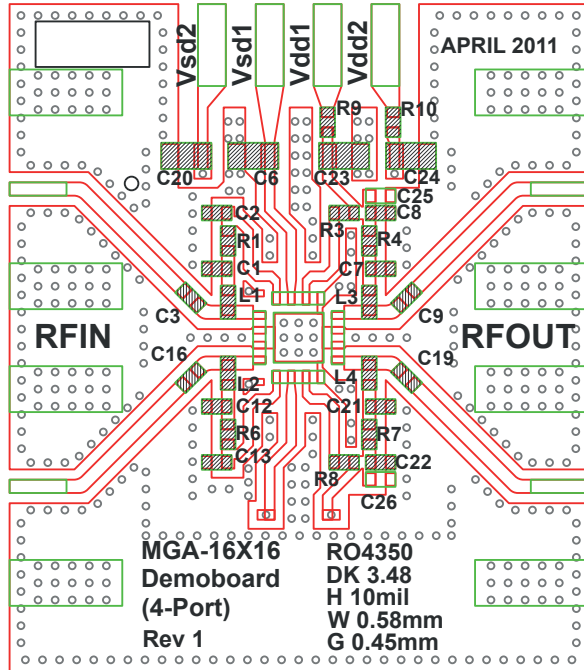
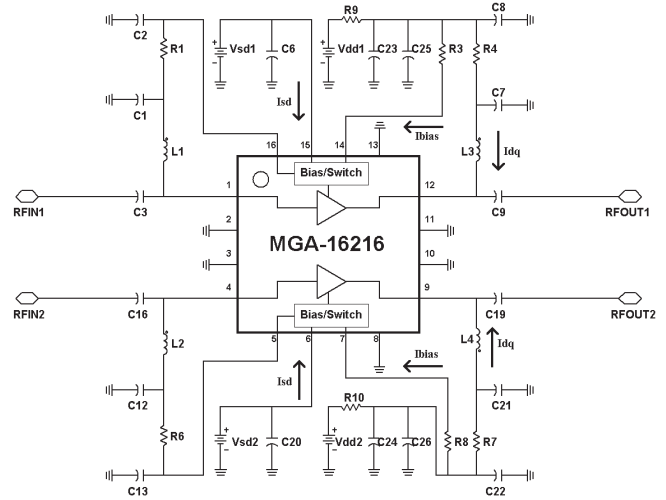

Figure 5. Demo Board Layout Diagram
Figure 6. Demo Board Schematic Diagram
4. Refer to Figure 6 for more details.
7. Bias to each LNA is adjustable using R3 and R8 (see Figure 6). Increasing R3 and R8 will reduce bias current (Idd) and vice-versa.
RF performance at $T_A = 25^\circ\text{C}$, $V_{dd} = 4.8\text{ V}$, $I_{dd} = 52\text{ mA}$, LNA mode, measured on demo board in Figure 5. Signal is CW unless stated otherwise. Application Test Circuit is shown in Figure 6 and Table 1. IIP3 test condition: FRF1-FRF2 = 1 MHz with input power of -20 dBm per tone.
2. Rbias is R3 and R8 from Figure 6.